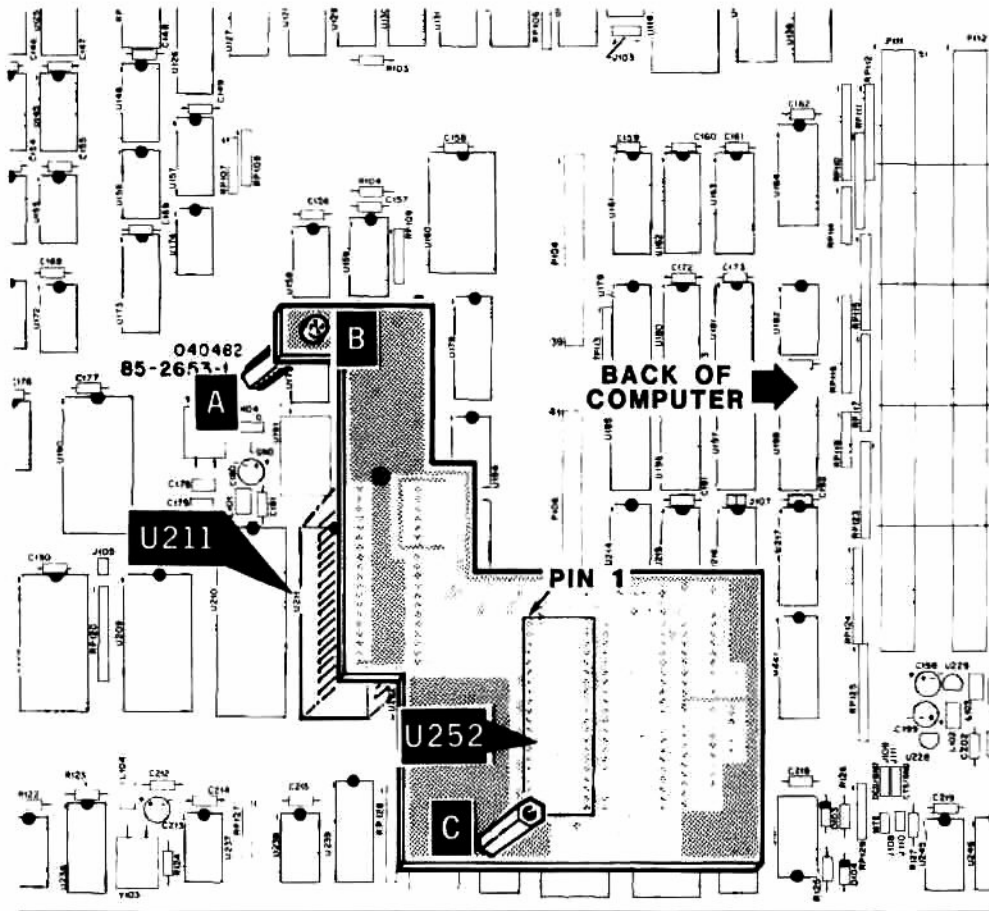

Figure 2.10. Z-216 Card Installation
- Refer to Figure 2.10. Carefully install the Z-216 card in the empty socket at U211 on the main board.